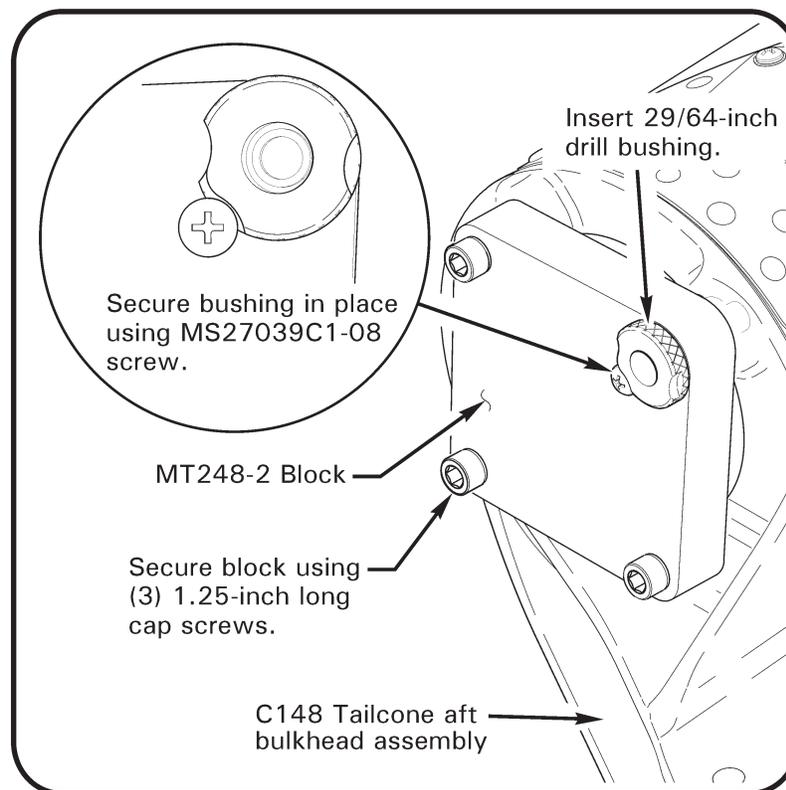

FIGURE 1 MT248 Set up to drill out threads
3. Refer to Figure 1. Position MT248-2 block on tailcone C148 aft bulkhead assembly with large diameter (bushing) hole over screw hole requiring repair. Secure block to aft bulkhead assembly using three 1¼-inch long cap screws. Insert 29/64-inch diameter drill bushing and secure to block using MS27039C1-08 screw. Drill out threads using 29/64-inch diameter drill bit.